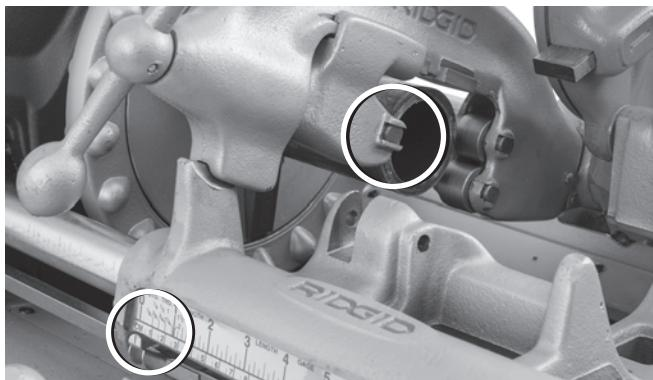
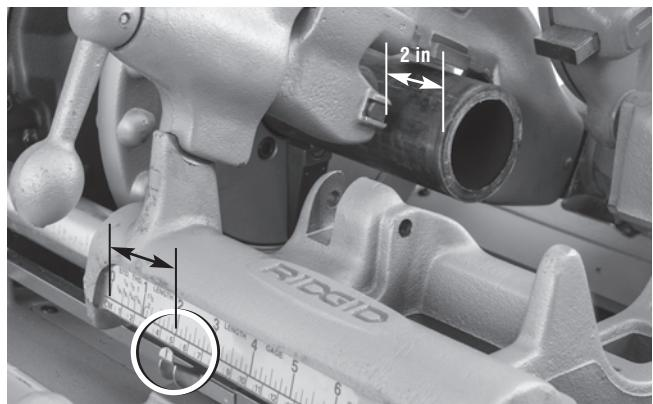

Figure 20A – Cutter Wheel Blade Against End of Pipe. Set Pointer to Zero (0)
Figure 20B – Length Gauge Pointer At Desired Length
**Length Gauge Use –** Place cutting wheel blade against the end of pipe and set length gauge pointer to "0" (Figure 20A). Raise cutter and turn carriage handwheel until the pointer is at the length desired. Lower the cutter into cutting position. See Figure 20B.